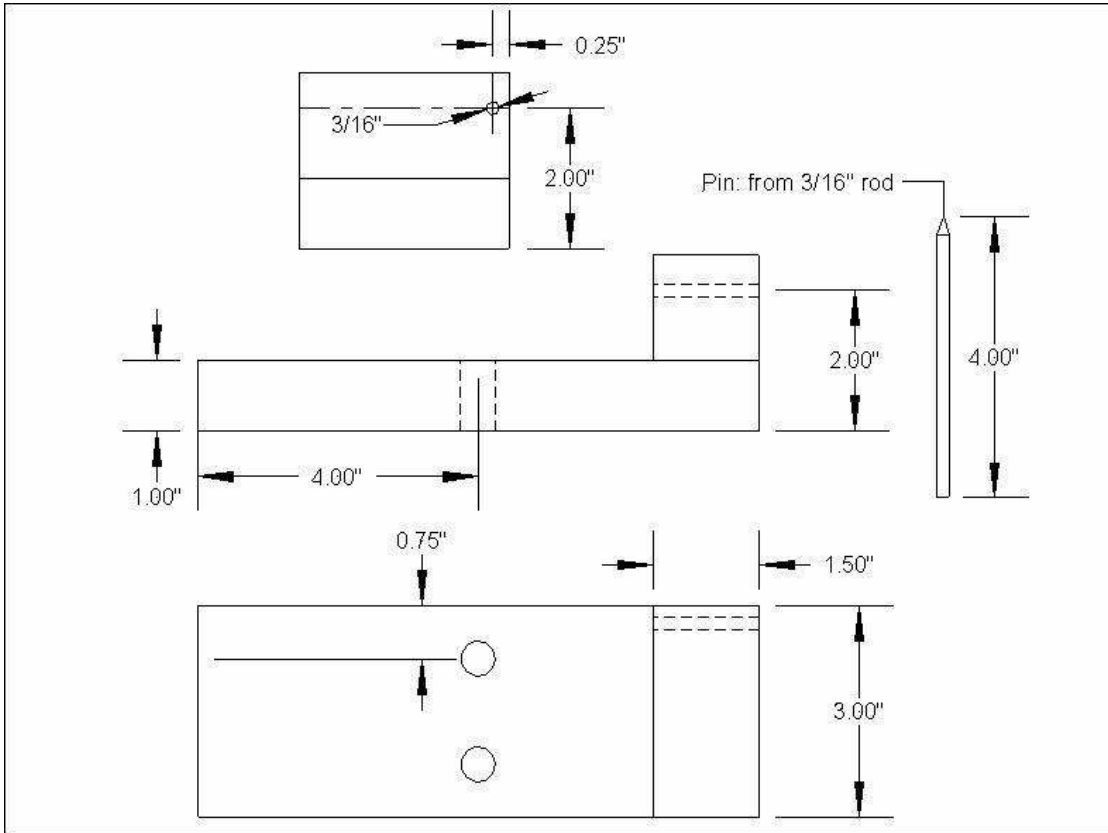

Figure 9 - Indexing Jig, Part A
- Figure 9 - Indexing Jig, Part A . . . . . 7